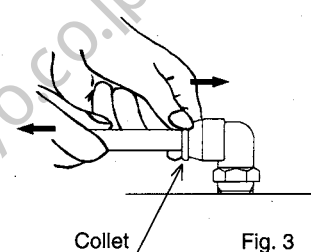

Fig. 3
- 3) Remove Nylon tubes (104), (105).
Pull out Nylon tubes (104), (105) while pushing the collet of Elbow (81). (See Fig. 3.)
- 4) Loosen Cap screws (108) and remove Valve body (70) and Coil hose (103) together.
- 5) Disassemble Valve body part (70).
① Remove Handle (82). Remove Spacers (78), then remove Spools (76) and Springs (75).
② Remove Elbow (81) and Adapter (74).
③ Remove Plug (71) and press out Valve cone (72) to the adapter side.
**NOTE :** Never hammer Valve cone (72). If hammered, Valve cone (72) will be damaged and cause trouble of the preventive device against reverse winding (overlowering limit switch).
- 3) Remove Nylon tubes (100), (101). (See Fig. 3.)